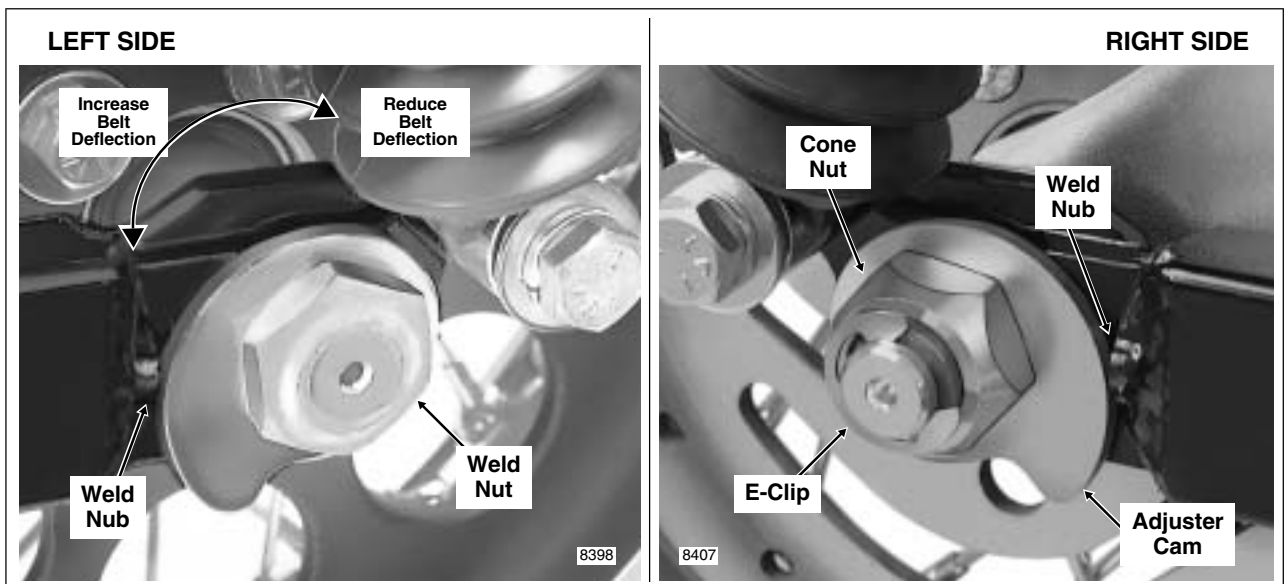

Figure 2-14. Move Rear Wheel Forward Until Adjuster Cams Just Contact Weld Nubs
8. Verify that adjuster cam just contacts weld nub on both sides of rear swingarm. If necessary, push wheel forward slightly to achieve the desired result. Snug the cone nut to 15-20 ft-lbs (20-27 Nm). See Figure 2-14.
- b. Push wheel forward slightly so that adjuster cam just contacts weld nub on both sides of rear swingarm. See Figure 2-14.